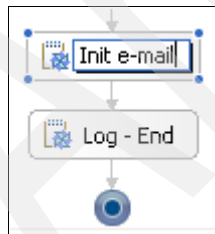

Figure 3-245 Init e-mail
3. Then, add a Java snippet above Log - End and name it Init e-mail as shown in Figure 3-245.